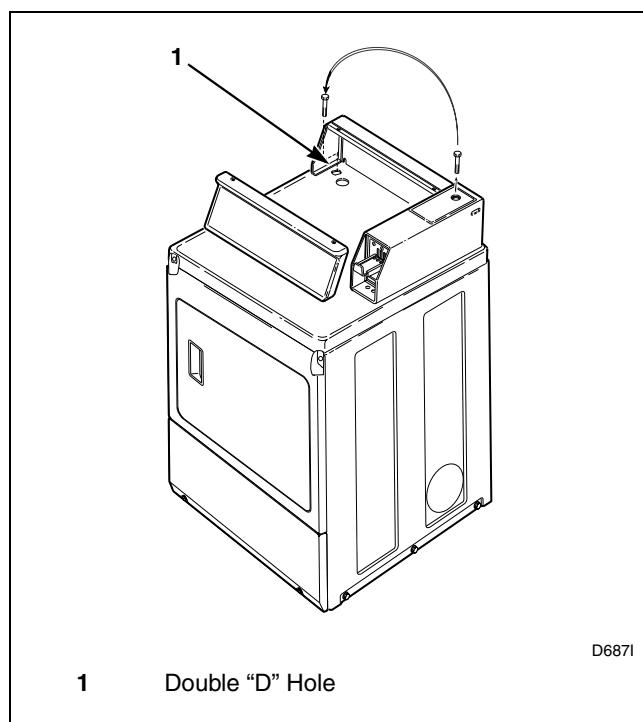

Figure 6
1. Remove the Phillips head screw from service door. (Refer to *Figure 6*.)